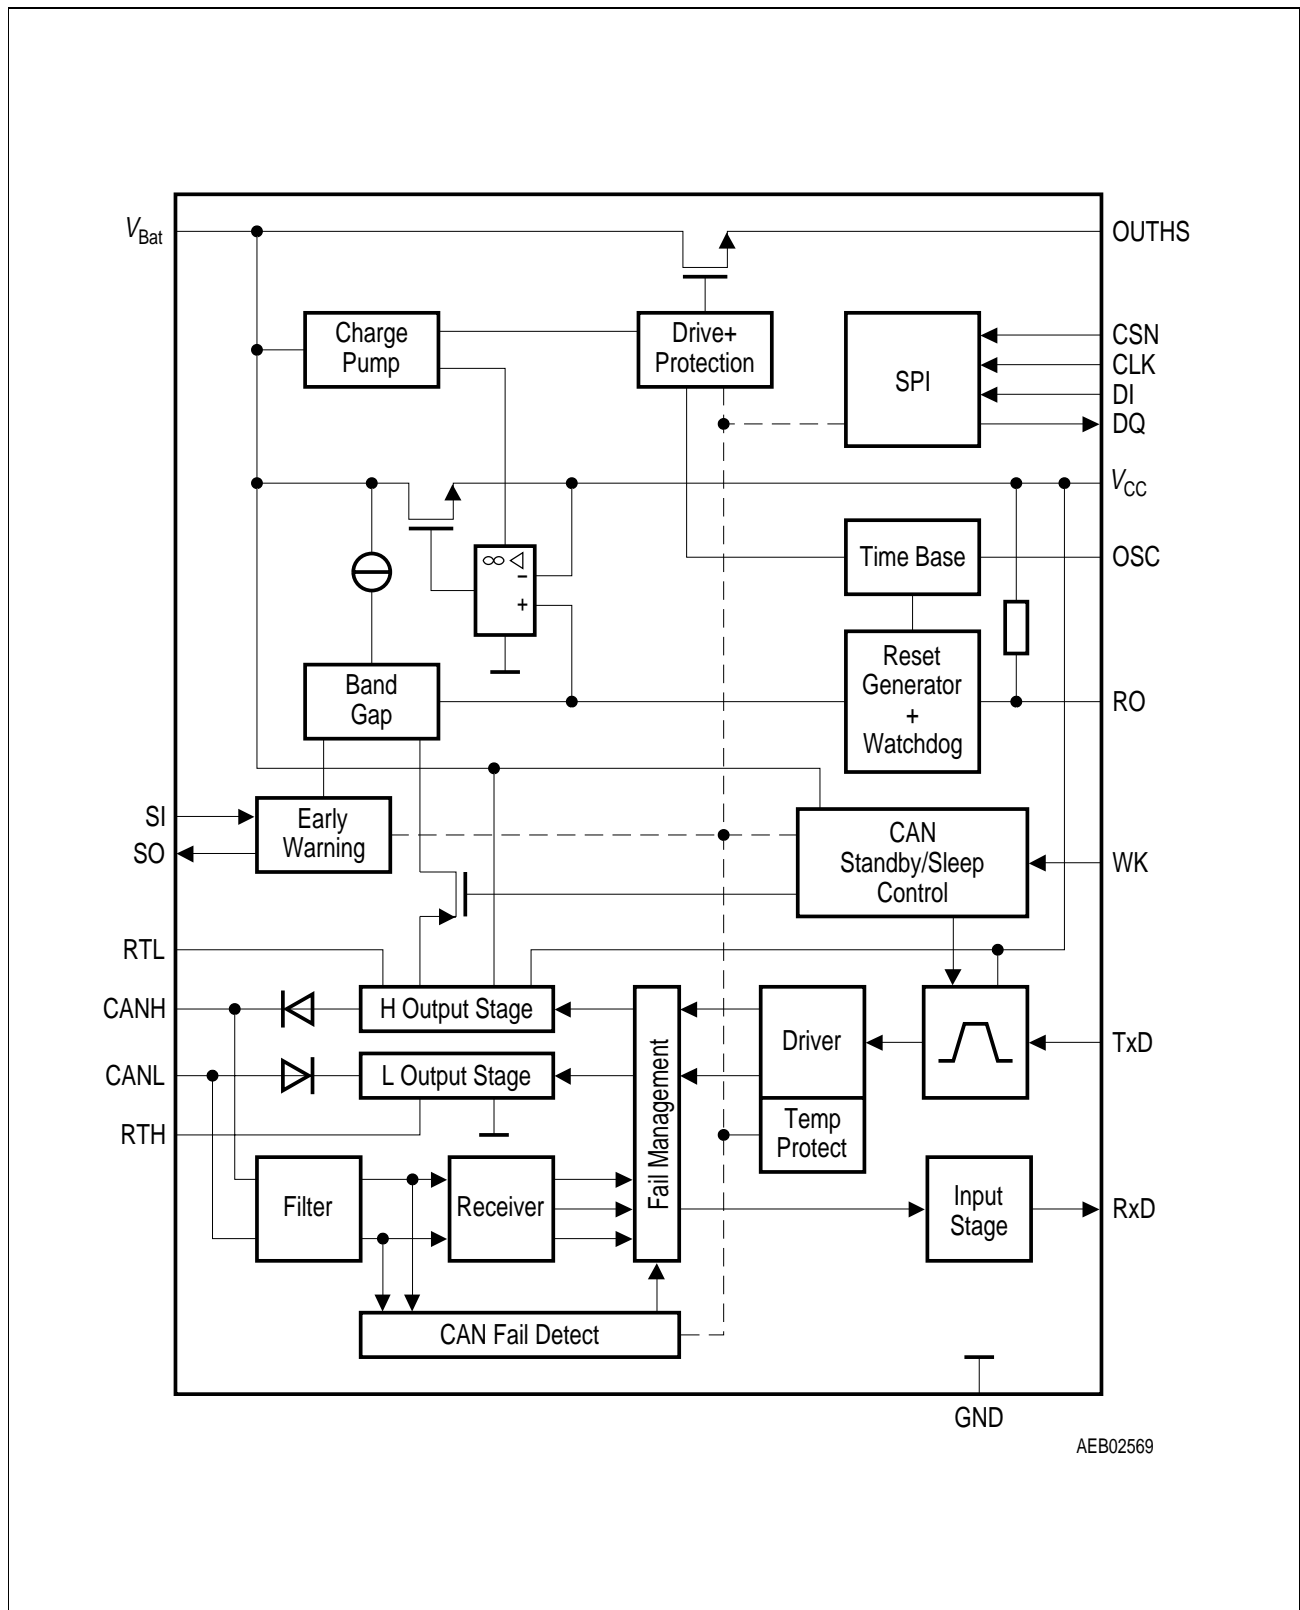

Figure 2
**Figure 2** shows a block schematic diagram of the TLE 6263 G.